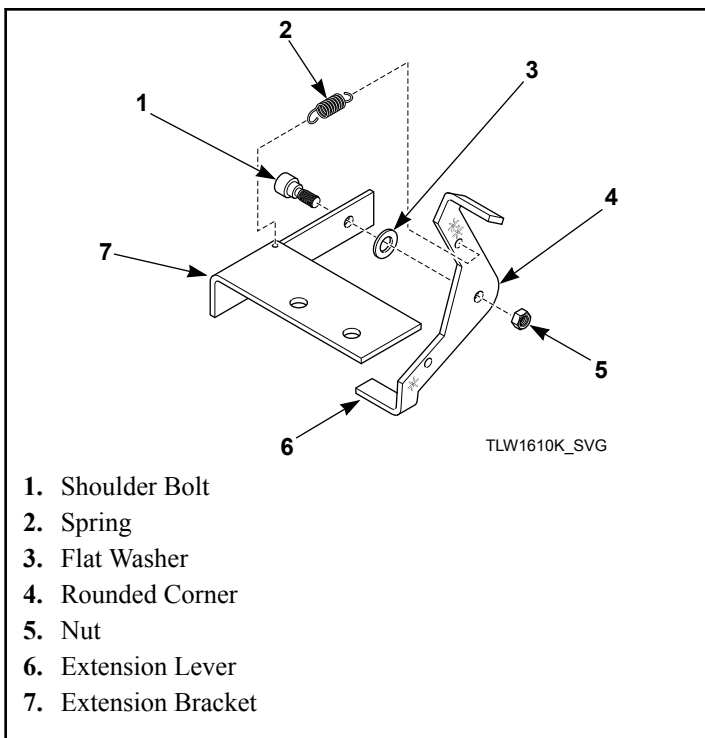

Figure 36
3. Install extension lever with rounded corner facing away from extension bracket using shoulder bolt, flat washer and nut. Refer to *Figure 36*.
4. Install spring to extension bracket with hook facing down. Install other end of spring to extension lever with hook facing left while standing in front of unit. Refer to *Figure 36*.